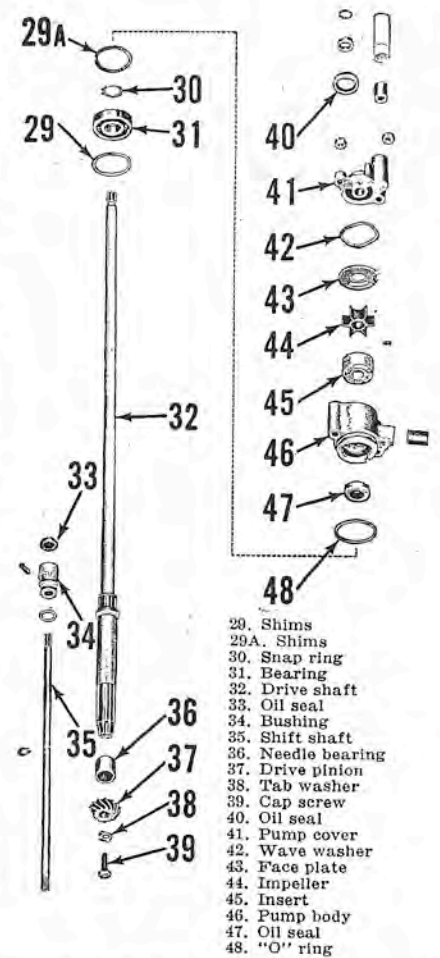
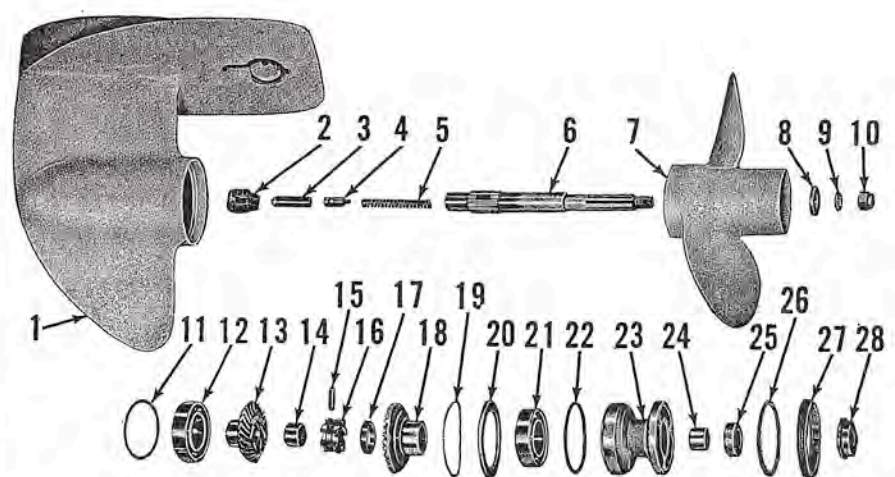

Fig. M40—Exploded view of lower unit drive shaft and associated parts. Refer also to Fig. M39.
Fig. M39—Exploded view of lower unit gearcase and associated parts. See also Fig. M40.
Disassemble the gearcase by removing the gearcase housing cover nut (27—Fig. M39) using the Gear Housing Cover Tool (91-30798). Nut is secured with left hand thread. Clamp the outer end of propeller shaft in a soft jawed vise and remove the gearcase by tapping with a rubber mallet. Forward gear (13) will remain in housing. Withdraw the propeller shaft from bearing carrier (23) and reverse gear (18). Remove and save the shims (19) and thrust washer (20) from inside of gear housing. Shims should be reinstalled if gear backlash was within limits before disassembly.
To disassemble the drive shaft and associated parts, reposition gearcase in vise with drive shaft projecting upward, remove the rubber slinger from upper end of shaft; then unbolt and remove the water pump cover (41—Fig. M40). Remove the wave washer (42) and face plate (43); then remove impeller (44) and impeller drive pin. Withdraw the remainder of the water pump parts. Clamp upper end of drive shaft in a soft jawed vise, remove the pinion retaining cap screw (39); then tap the gearcase off the drive shaft and bearing. Note the position and thickness of shims (29 & 29A) on drive shaft upper bearing. Mesh position of pinion is controlled by shims (29) placed underneath the bearing, while shaft end play is controlled by total shim pack thickness. The shims are identical but
After drive shaft has been removed, the forward gear (13—Fig. M39) and bearing (12) can usually be dislodged by jarring open end of gearcase against a block of soft wood. Remove and save the shim pack (11).
Shift shaft (35—Fig. M40) can be removed after removing the set screw retaining bushing (34). When installing, make sure that long shaft splines are on upper end, and that shift cam (2—Fig. M39) is installed with the notches up and on starboard side as shown.
Increasing the thickness of shim pack (11) decreases the backlash of forward gear (13). Increasing the thickness of shim pack (19) INCREASES the backlash of reverse gear (18). The number and thickness of shims (29—Fig. M40) controls mesh position of drive pinion. Shims are available in thicknesses of 0.002, 0.003, 0.005 and 0.010.
When renewing gearcase housing, or when correcting backlash and mesh of drive gear train, first install drive shaft (32—Fig. M40), bearing (31), shims (29 & 29A)
and water pump housing (46). Adjust total thickness of shims (29 & 29A) so that water pump will seat on housing with no shaft end play. Remove the shaft and lay shims (29 & 29A) aside for reinstallation during assembly. Make a trial assembly of forward gear (13—Fig. M39) and bearing (12) using the removed shims (11). Install drive shaft (32—Fig. M40), bearing (31) and shims (29). Install drive pinion (37) and install and tighten locking screw (39). Coat gears with bearing blue then check mesh pattern by pressing drive shaft down and turning clockwise to rotate the gears. If pressure is heavy on lower end of pinion tooth, remove one shim from pack (29). Place the removed shim with pack (29A) to retain end play adjustment. Reverse the procedure if pressure is heavy on upper end of tooth. After adjusting mesh position, check and adjust backlash to 0.003-0.005 by adding or removing shims (11—Fig. M39). Install reverse gear (18) and bearing (21) in bearing carrier (23); then install assembled parts in gearcase without propeller shaft. Adjust to minimum backlash without binding, by adding or removing shims (19).